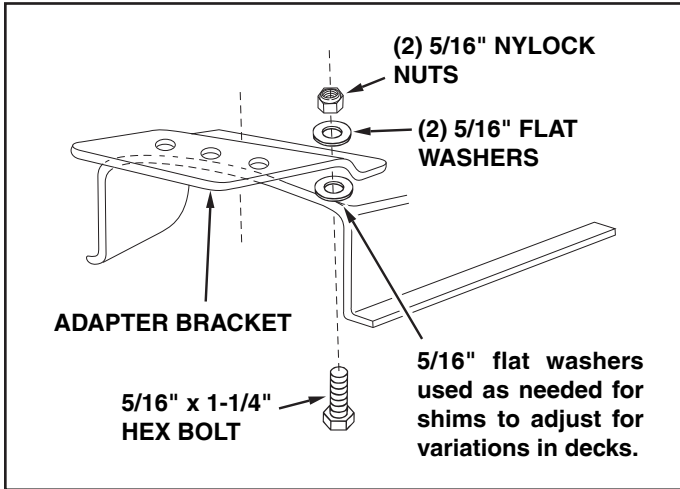

FIGURE 18
- Assemble the adapter bracket to the deck using two 5/16" x 1-1/4" hex bolts, 5/16" flat washers and 5/16" nylock nuts. See figure 18.
**NOTE:** It may be necessary to use extra 5/16" flat washers to shim under the bracket next to the deck surface. Ten extra washers have been furnished as shims. See figure 18.